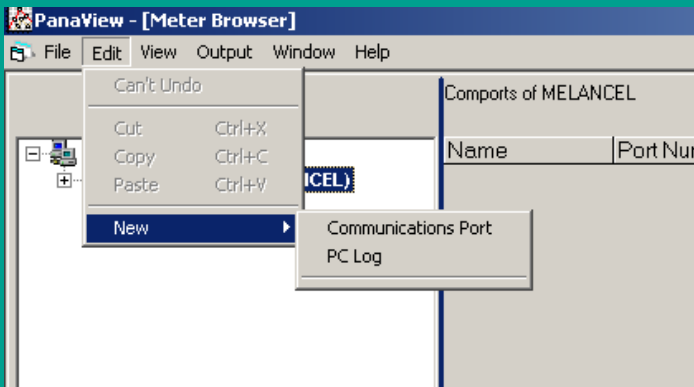

Figure 18: Edit menu
3. Click on the “new” menu option to select it, and a submenu opens with two choices on it (see figure 18).